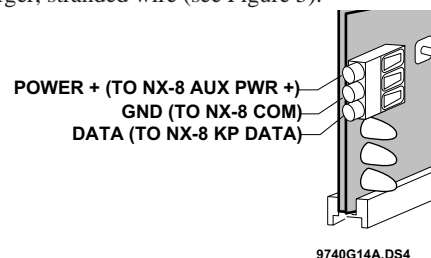

Figure 5. Wiring the Module Power and Data Terminals to the NX-8 Power and Data Terminals
- 2) Connect the module power and data terminals to the NX-8 power and data terminals using 22-gauge or larger, stranded wire (see Figure 5).